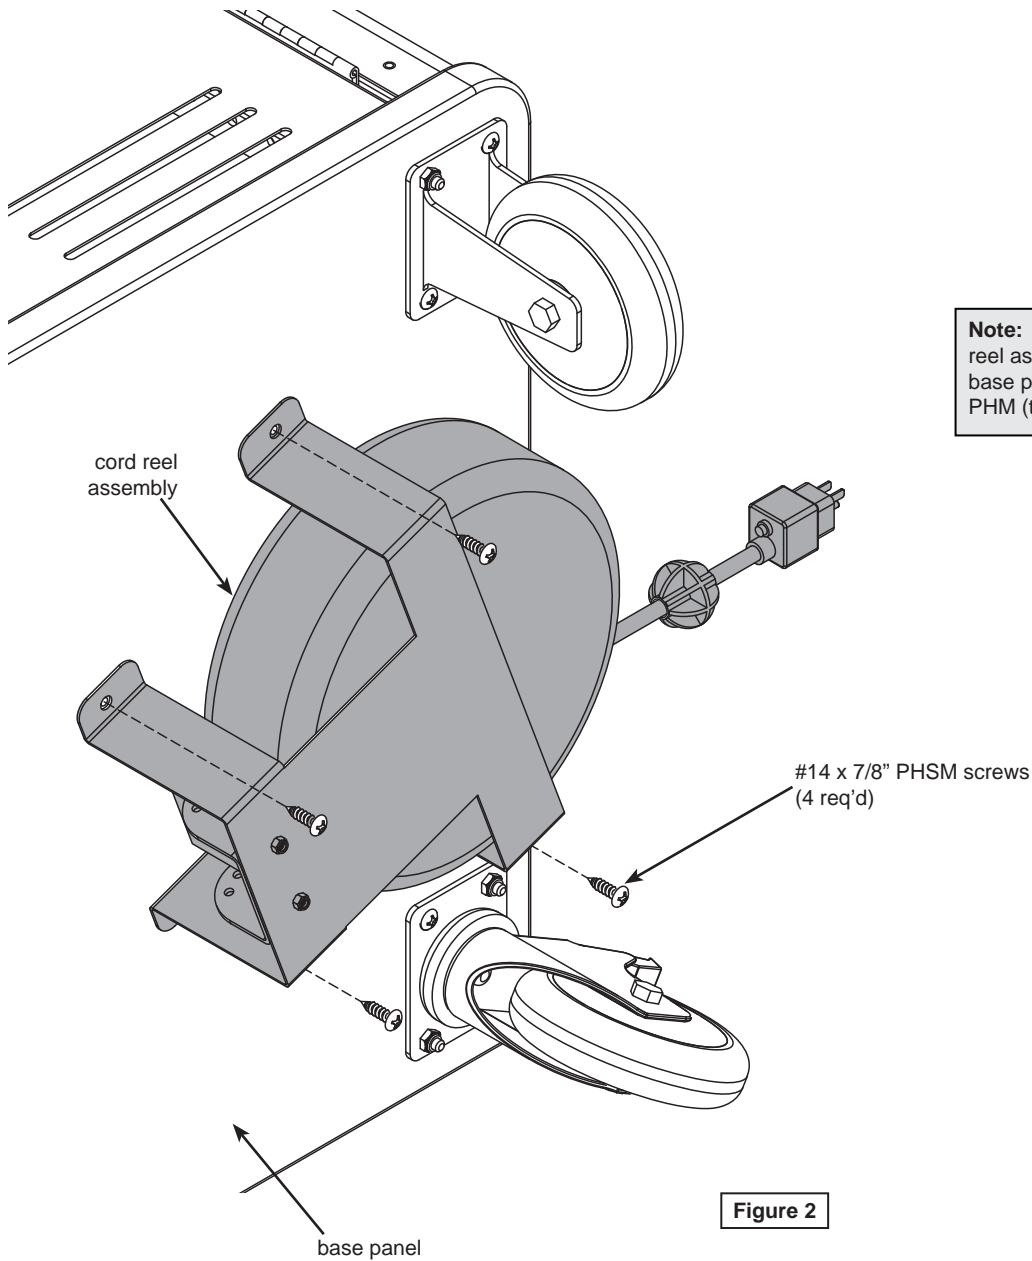

Figure 2
3. Align and attach the cord reel assembly to the base panel mounting holes using (4) #14 x 7/8" PHSM screws. **Figure 2.**